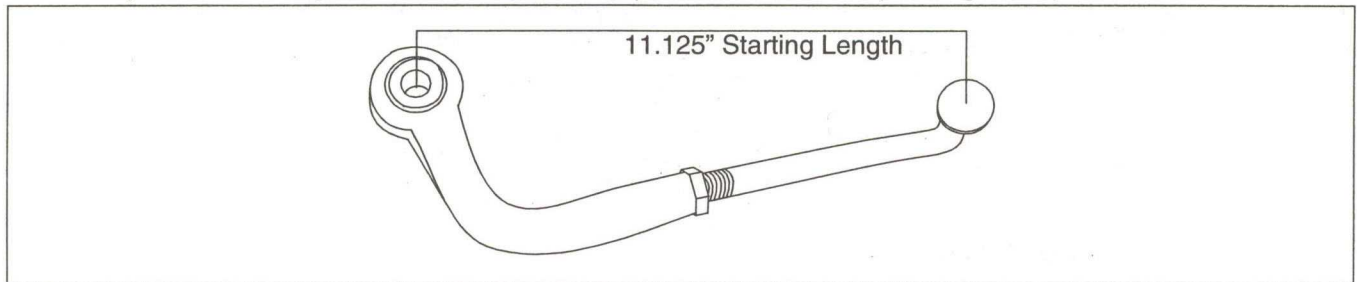

Figure 20
Note: Adjust the retaining arm to their original lengths of 11.125 inches. (See Figure 20)
4. Measure the distance to the ground from the front edge of the blades and the rear edge of the blades. The difference between the front and back measurements should be between 1/8"-1/4". (See Figure 20)
5. If the measurement is less than 1/8", you will need to adjust the length of the retaining arm to its starting length (11.125"). (See Figure 20)